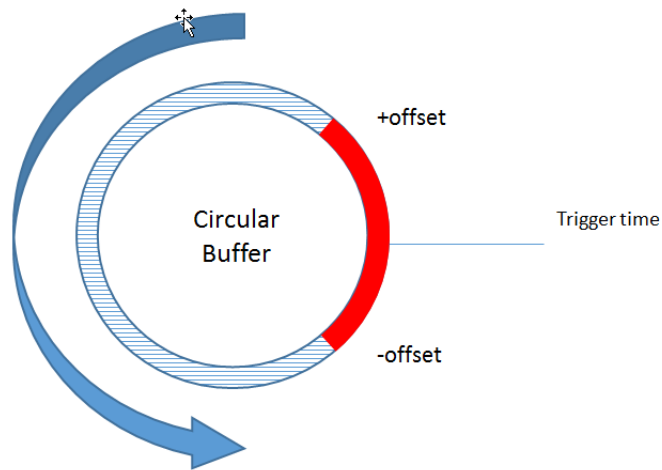

Figure 4.1: The circular buffer and the offset
*Ofst* is a 12-bit word defining the offset in the circular memory. When a trigger fires when writing the Current Address (*CA*), all the words between *CA-offset* and *CA+offset-1* will be read by the FPGA (figure 4.1).